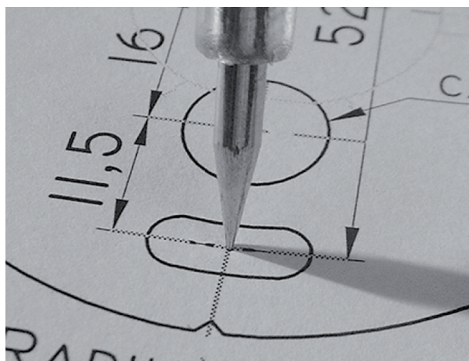
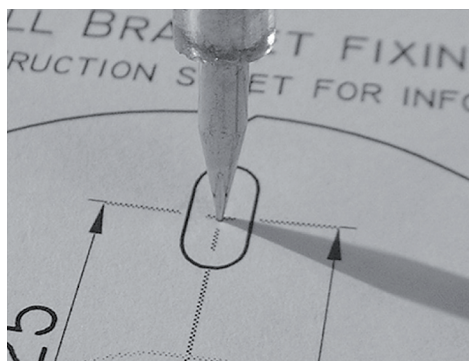

Figure 2.
Figure 3.
1. Remove the backing from the 'low tack' adhesive on the back of the template. Offer the bracket template up to the wall, so that the fixing holes run vertically, ensuring that it is true. If you are happy, press it against the wall to hold it in place. Mark the centres of the two wall fixing holes with a bradawl, piercing through the template (examples can be seen in Fig.2 and Fig. 3). If your loudspeaker cable has been/going to be run through the wall remember to take this into consideration when fixing the bracket to the wall. Please see the template for reference dimensions.